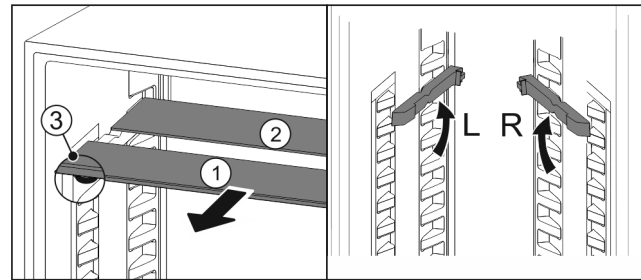

Fig. 122
- ▶ Pull the glass panels out Fig. 122 (1) from the front, one at a time.
- ▷ The glass panel Fig. 122 (1) with the trim strip is at the front.
- ▷ The stops Fig. 122 (3) point downward.